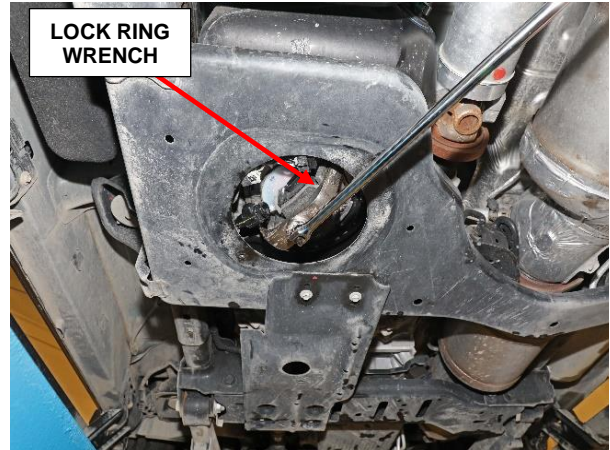

Figure 4 – Lock Ring Removal
9. Using the SAE Fuel Pump Lock Ring Wrench 9340, remove the lock ring from the DEF tank (Figure 4).
15. Using the SAE Fuel Pump Lock Ring Wrench 9340, install the lock ring onto the DEF tank (Figure 4).